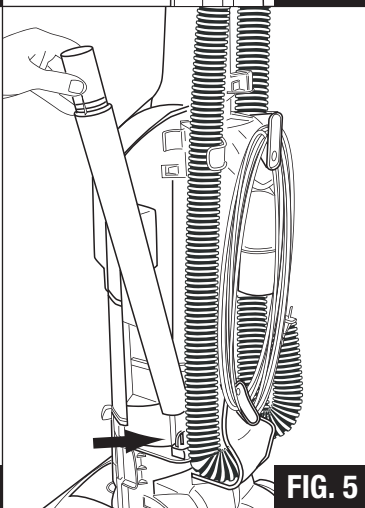

FIG. 5
Step 8: Store the wands on the side of the vacuum in front of the hose (FIG. 5).